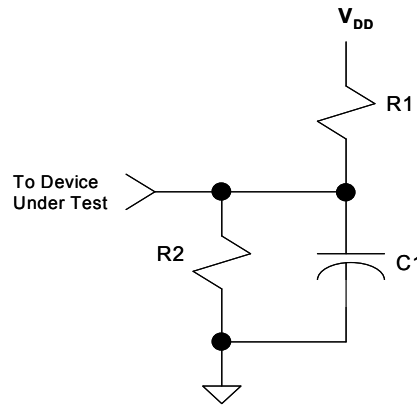

Figure 6: AC Test Load
6. With load specified in Figure 6 on page 29, Test Load A from Table 7.
7. With load specified in Figure 6 on page 29, Test Load B from Table 7.